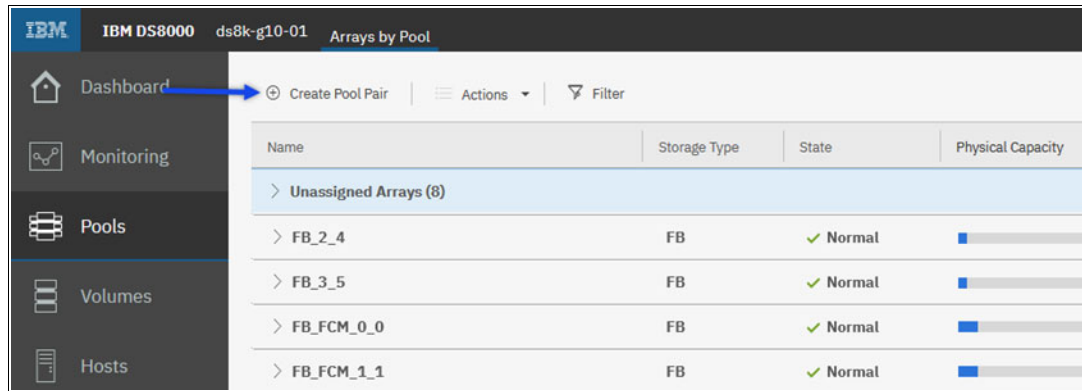

Figure 9-36 Create Pool Pair window
2. Click the **Create Pool Pair** tab, as shown in Figure 9-36. The Create Pool Pair window opens.